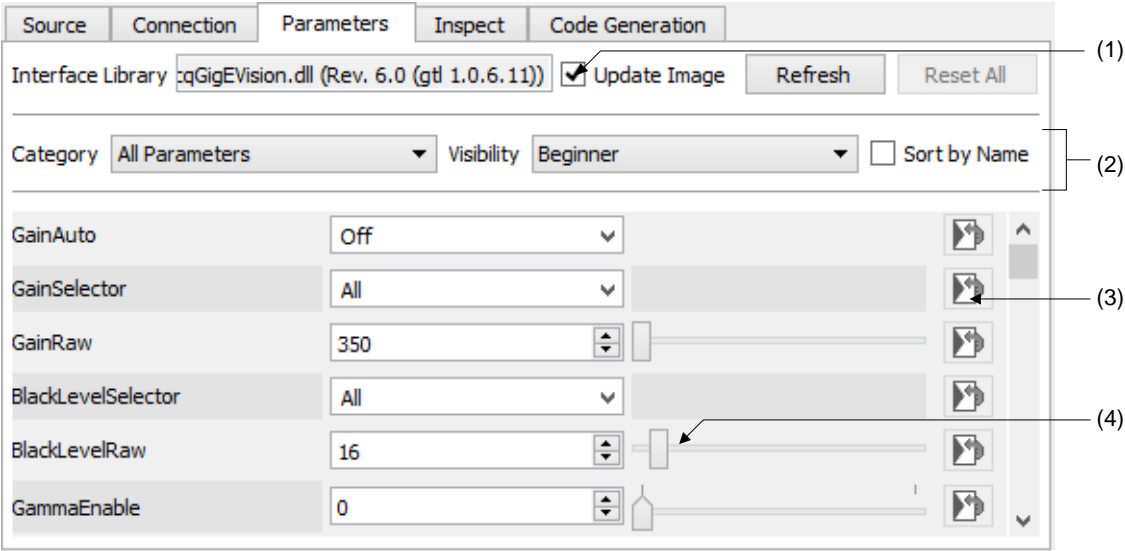

Figure 3.8: Device-specific parameters (example).
The tab card `Parameters` contains a list of parameters specific to the selected device. It becomes available once the connection to the device has been activated. See figure 3.8 for an example parameter list. The range of parameters can be limited by category and visibility (2). Please refer to the `HTML` page of the selected interface for detailed information. You can click the help button of the assistant to get to the corresponding page automatically.